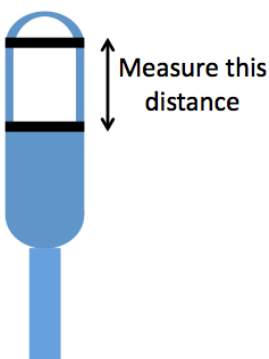

Fig. 1.9. Measure the distance from the bottom of the curve to the top of the solution level on each pipette.
9. When you finish running the system, mark the level of the liquid in each pipette with a permanent marker (see Fig. 1.9.).